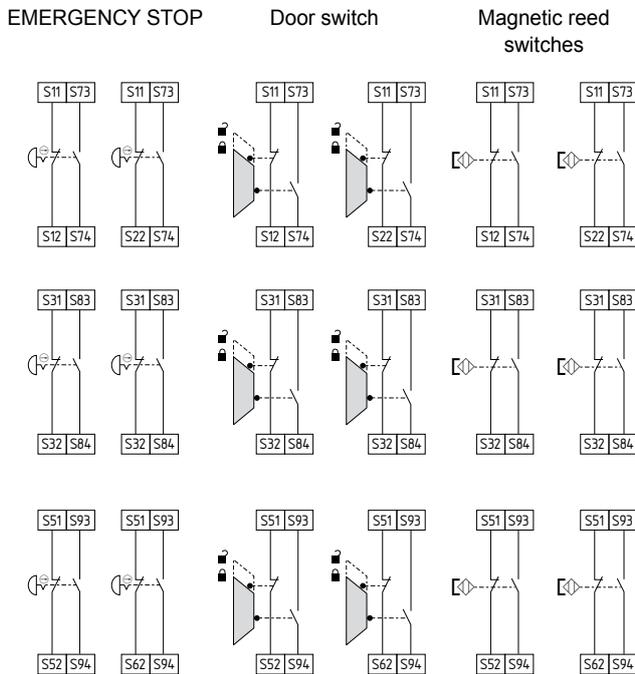

Fig. 5
**Dual-channel emergency stop circuit with command devices to DIN EN ISO 13850 (EN 418) and EN 60947-5-5 (Fig. 5)**
**Dual-channel guard door monitoring circuit with interlocking device to EN 1088 (see Fig. 5)**
**Dual-channel control of magnetic safety switches according to EN 60947-5-3 (see Fig. 5)**